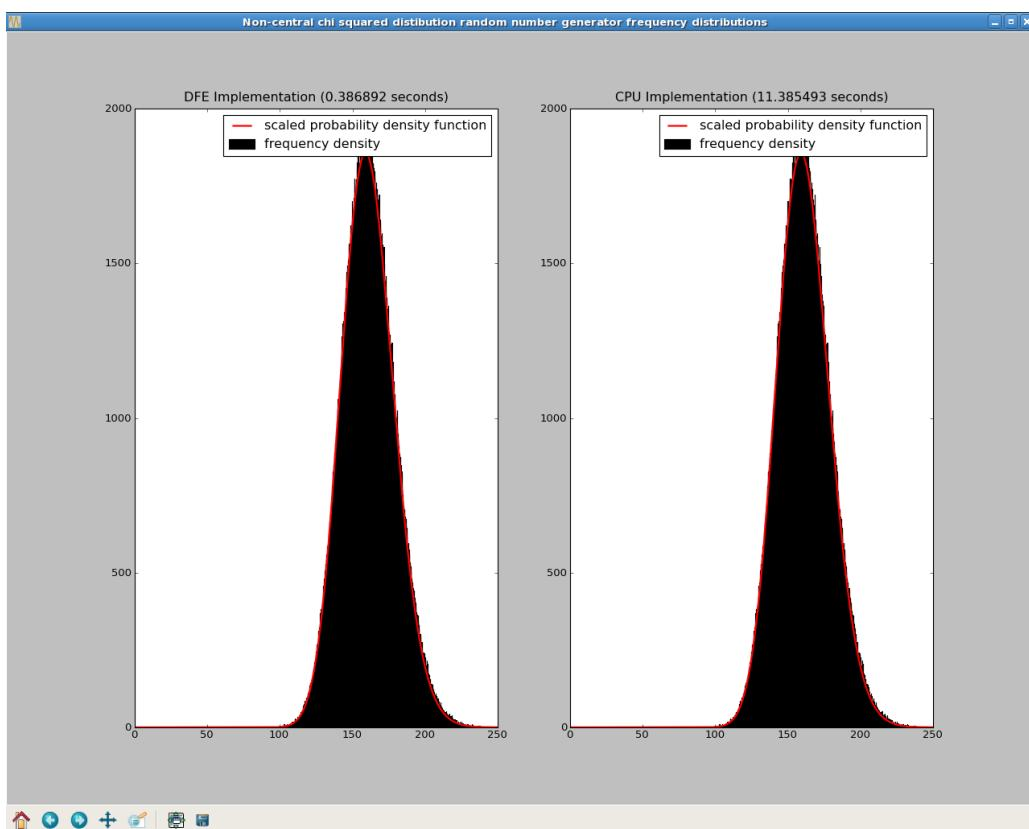

Figure 6: Non-central  $\chi^2$  random number Generation demo
*Figure 6* shows a screenshot of the demo application.